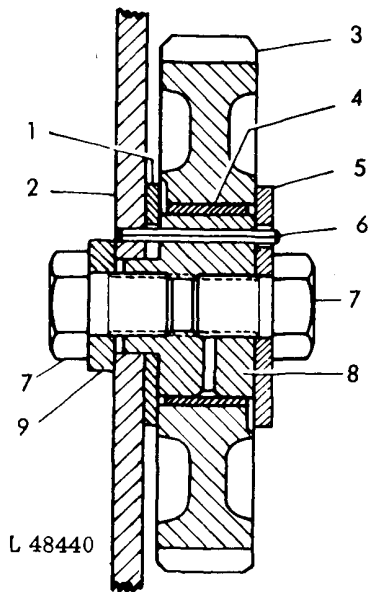

Fig. 7 — Lower Idler Gear and Its Support - Sectional View
9. After having timed the balancer shaft gears, carefully slide the lower idler gear onto the shaft, simultaneously engaging the gear in the crankshaft, lubricating oil pump and right-hand balancer shaft gears with a rotating motion. Take extra care not to rotate the previously timed gears. Make sure that rear thrust washer 1 (fig. 7) has been installed.
If a new shaft is installed for the lower idler gear, drive spring pin 6 (fig. 7) in shaft so that it protrudes from front face of shaft by a specified value. Slide rear thrust washer 1 on shaft journal and spring pin. Drive in shaft until thrust washer is fully seated. Secure shaft with special steel washer 9 and cap screw 7. Tighten screw to specified torque (see Torques for Hardware).
Install front thrust washer 5 over the spring pin 6, screwing the second cap screw 7 (see fig. 7) into the shaft. Secure gears against rotation and tighten screw to specified torque (see Torques for Hardware).